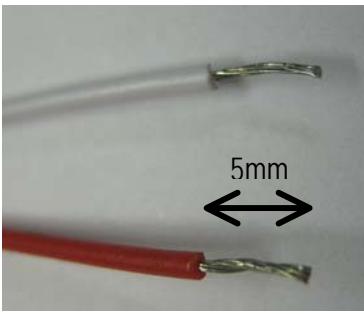

Fig 16a
- Cut the leads to the same length, then strip back approximately 5mm of bare wire (see Fig 16a).